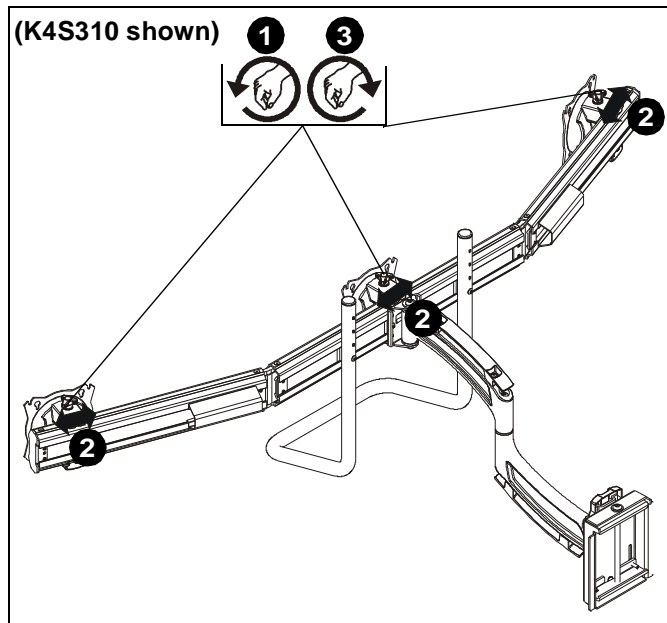

Figure 14
1. Loosen knob on top of faceplate assembly until faceplate can slide freely along array. (See Figure 14)
2. Adjust lateral position as desired. (See Figure 14)
3. Tighten knob to secure lateral position. (See Figure 14)